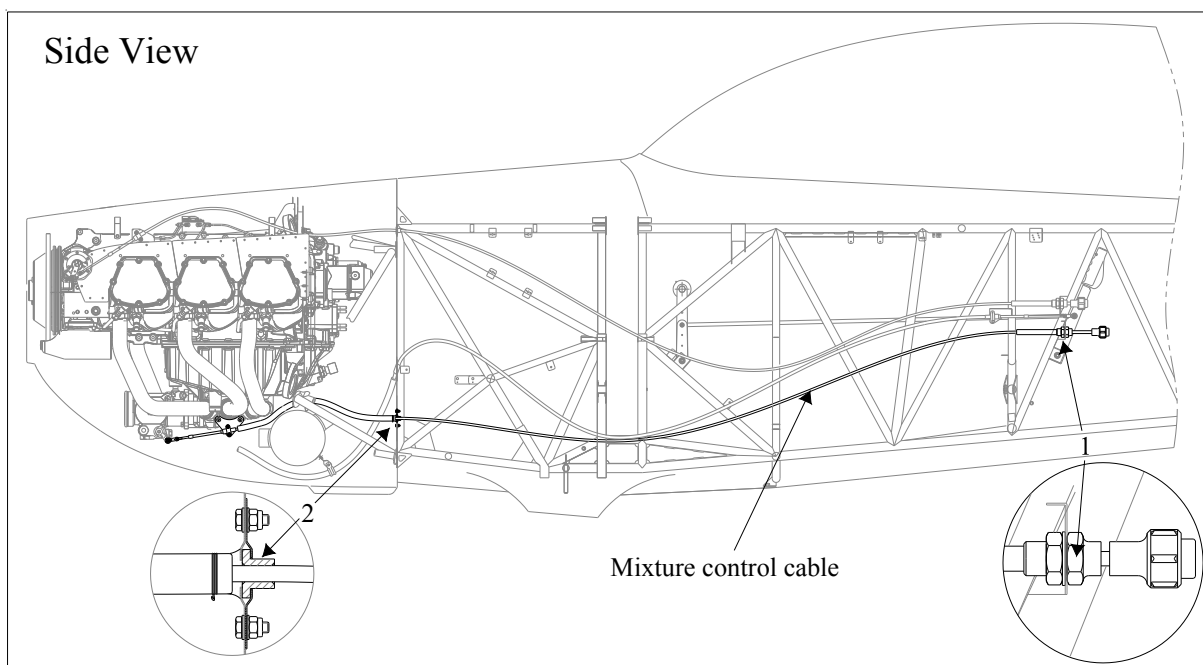
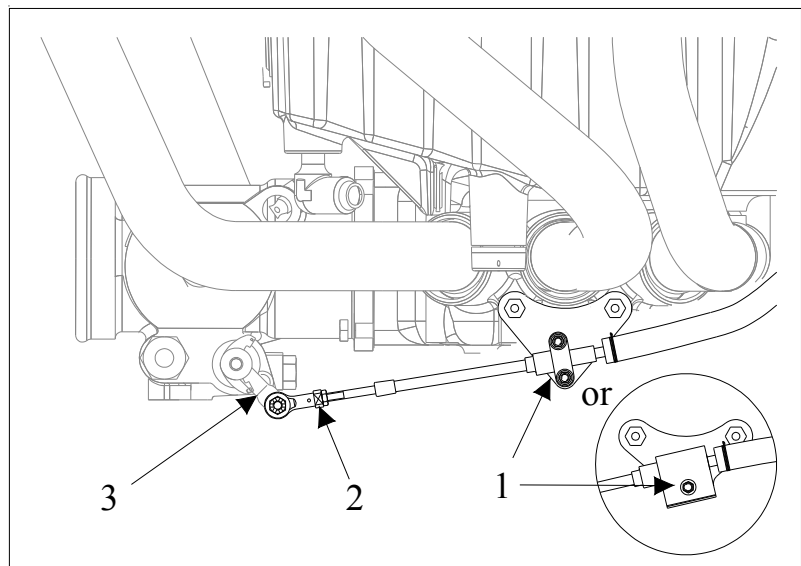

Figure 5
Figure 8 *Mixture Vernier Control Cable Rigging*
Refer to Figure 5. The mixture of the fuel injector servo is controlled by means of the vernier mixture control cable located on the left side of the cockpit (red control knob). This cable is routed on the left side of the fuselage, penetrates the firewall and is then routed to the mixture control lever. In the engine compartment this cable is covered with a 540 mm firesleeve. The cable is attached to the fuselage using a clamp block at its front end and cable ties. The mixture vernier control unit (1) is mounted to a fuselage bracket. The fire wall penetration is sealed with PR-812 (Products Research & Chemical Corp., USA) firewall sealant and covered with a clamp sheet (2).
- 5 Remove cotter pin, castle nut, washers and bolt from the rod end (2, Figure 8) to mixer control lever attachment (3).
- 6 Loosen counter nut and remove the rod end (2) from the mixture control cable.
- 8 Remove clamp block (1) attachment bolt.
- 9 Remove clamp block (1) from the vernier mixture control cable.
- 11 Remove 2 bolts of the clamp sheet attachment positioned at the firewall break through (2, Figure 5). Remove firewall sealing and disconnect clamp sheet and contained plastic guidance from the rear side of the firewall.
- 13 Remove attachment nut and washer of the mixture control unit (1, Figure 5).
- 10 Install the mixture vernier control cable to the respective bracket by installing the clamp block (1, Figure 8) to the conduit fitting of the control cable.
- 11 Push the mixture actuator (3, Figure 8) to the full forward position.
- 4 If necessary adjust rod end (2, Figure 8) by the following steps:
- a Remove cotter pin, castle nut, washers and bolt from the rod end (2) to mixer control actuator (3) attachment.
- b Loosen the counter nut and adjust rod end (2) by turning. Ensure thread is visible in the inspection hole when fastening. Apply inspection lacquer on the counter nut.
- c Reconnect the rod end (2) to the mixture control actuator (3).